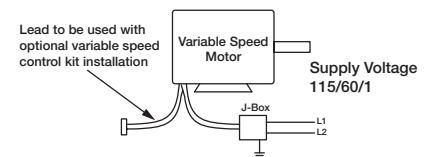

Figure 3 — Typical Wiring Diagram
2. Refer to Figure 3 for connection wiring diagram.